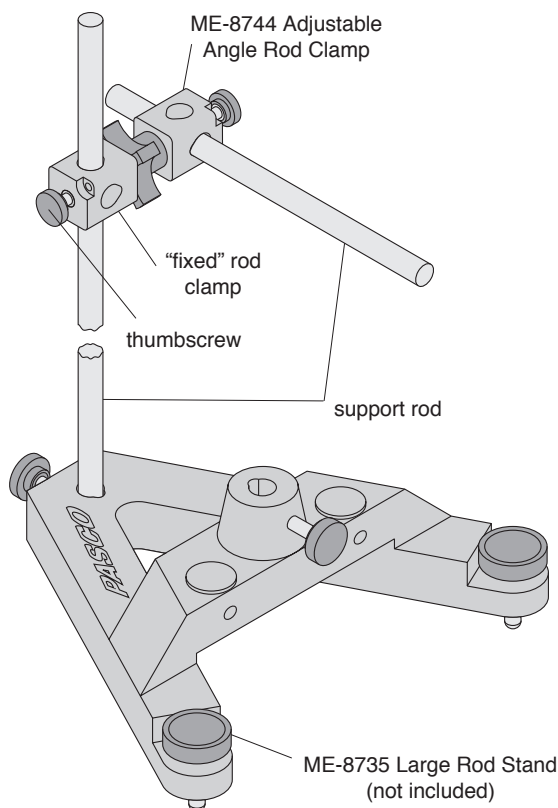
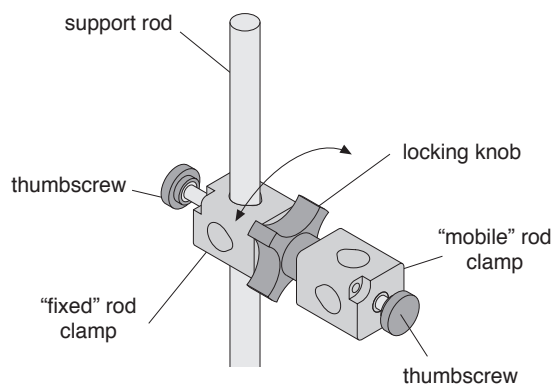

Figure 1: Setting Up the ME-8744 Adjustable Angle Rod Clamp
Figure 2: Adjustable Angle Rod Clamp Adjustment
- ① Attach the “fixed” rod clamp, with the locking knob permanently affixed, to a base rod up to 1/2” (12.5 mm) in diameter. See Figure 1.
- ② Secure the rod clamp in place with the thumbscrew.
- ③ Loosen the locking knob and rotate the “mobile” rod clamp into the desired position. See Figure 2.
- ④ Tighten the locking knob against the mobile rod clamp until secure.
- ⑤ Place additional rod or equipment in the mobile rod clamp and secure with the thumbscrew.